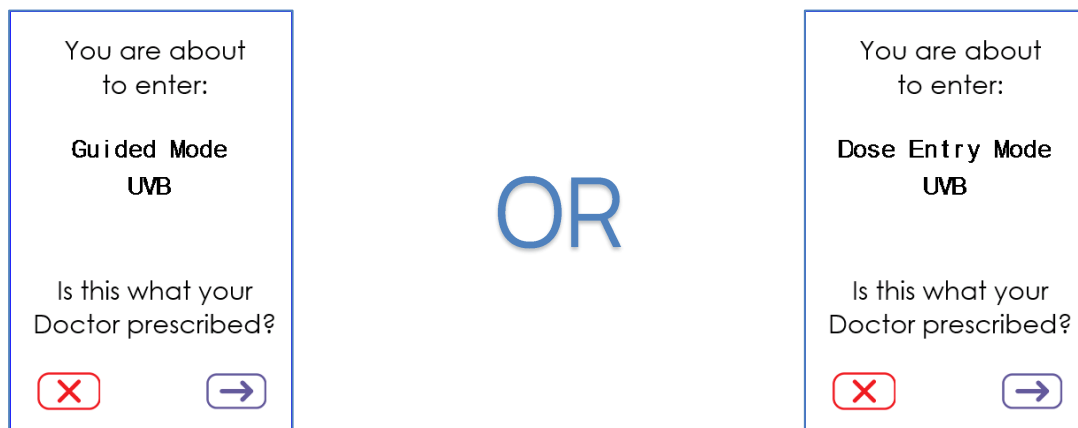

Figure 12 Operation Mode Confirmation screens
5. If the device has been activated, it will unlock to the Operation Mode screen (Guided Mode or Dose Entry Mode – see **Figure 12**), otherwise, see *section 8.3 Activating Device with Setup/Refill Codes*: